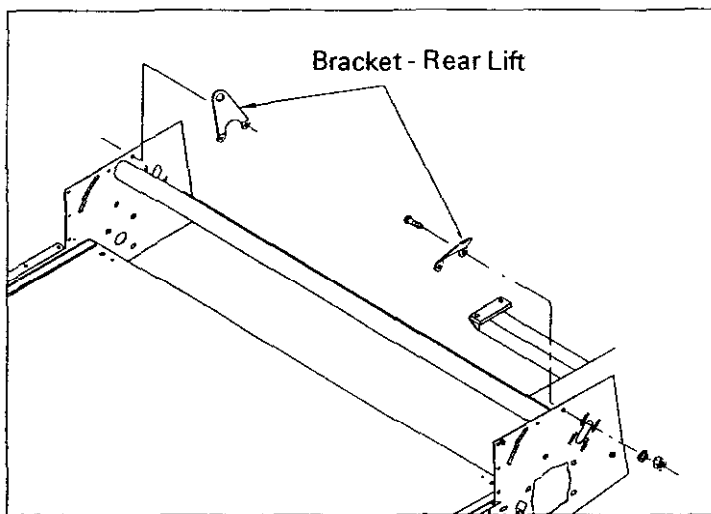

Figure 4
**NOTE:** Adjust Support Rods (L) to clear gate.
10. Attach the Bracket-Rear Lift to each side of the Topdresser as shown in Fig. 4. Use 3/8" x 1" bolts and secure tightly.